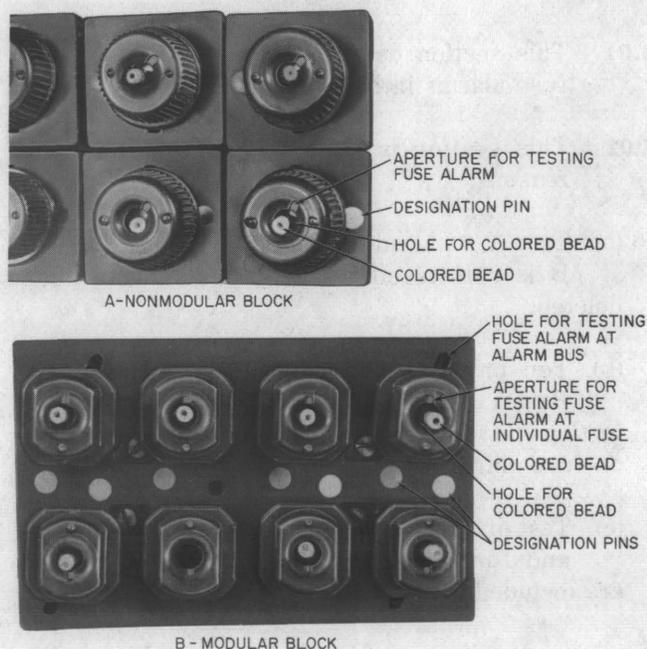

Fig. 1
1.13 The fuse alarm associated with 70-type fuses should be tested by inserting the tip of the 411C tool (attached to the W1AF cord) into the aperture of the fuse cap (Fig. 1) and touching the exposed alarm test point for a fuse position at each end of each row of fuses on the fuse panel.